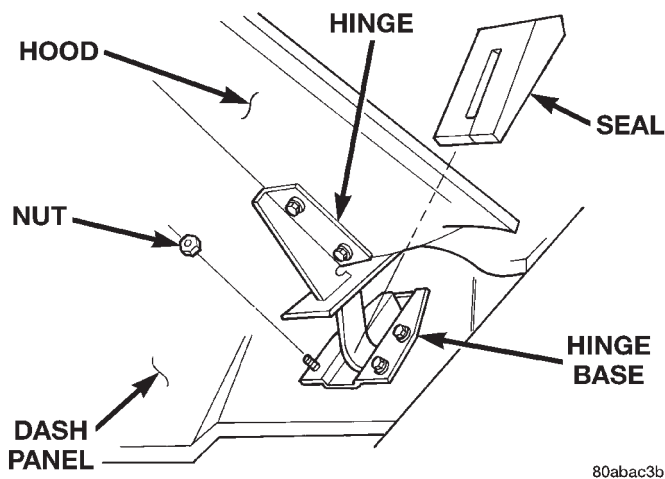

Fig. 4 Hood Hinge and Seal
- (2) Using a grease pencil or equivalent, mark position of hood.
- (3) Remove seal from hinge base (Fig. 4).
- (4) Remove hinge retaining nuts from studs.